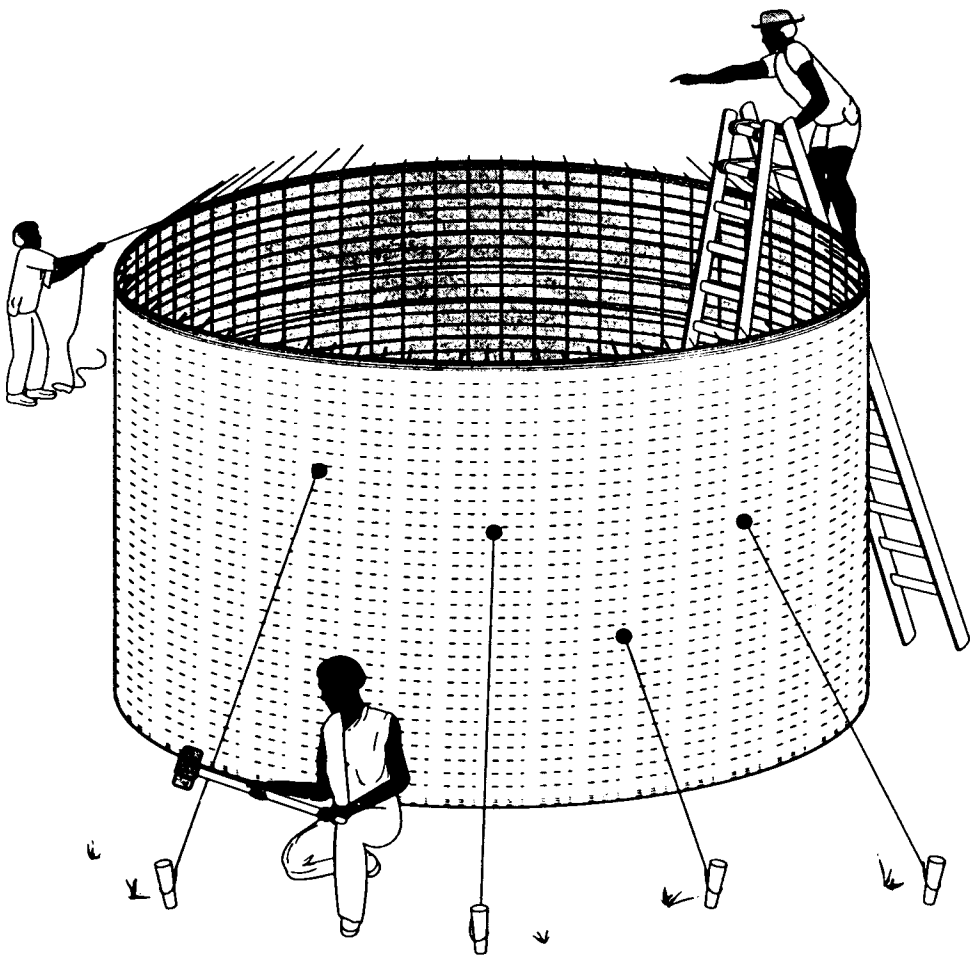

Figure 11.12 Pulling the tank into shape
- Tie sacking to the outside wall. Firmly tie two ladders together to straddle the wall. Inspect the tank and pull it into a cylindrical shape using staked ropes or binding wire (Figure 11.12).